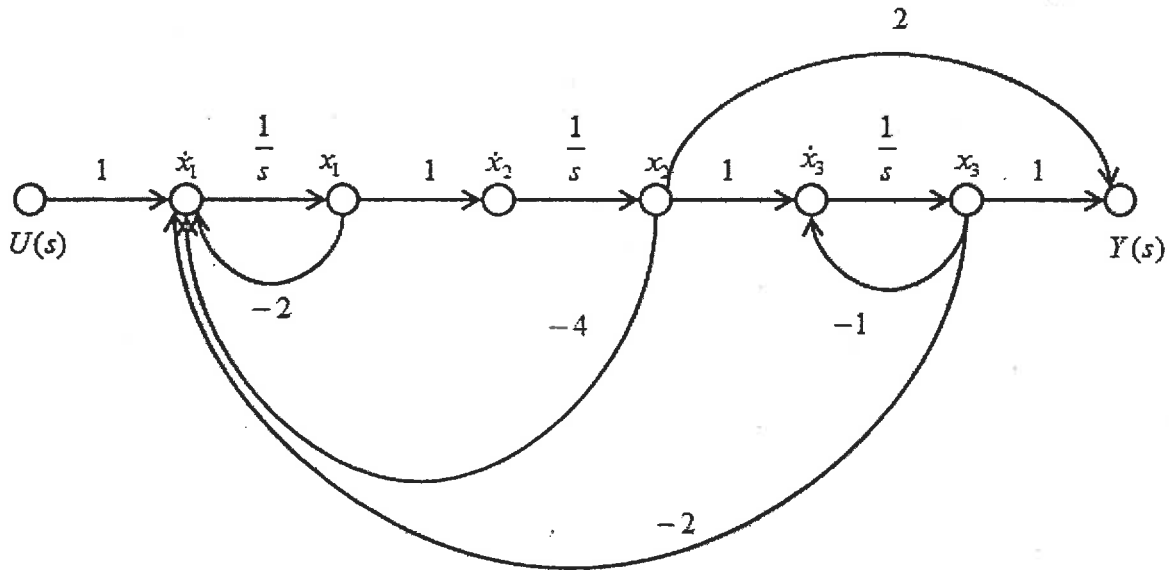

Figure Q5.1
Consider a linear process described by the signal flow graph in Figure Q5.1:
- 1) (6 marks) Derive a set of the corresponding state equations - follow the choice of state variables as indicated in Figure Q5.1.